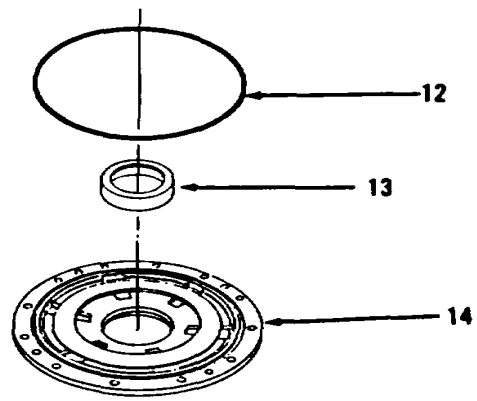
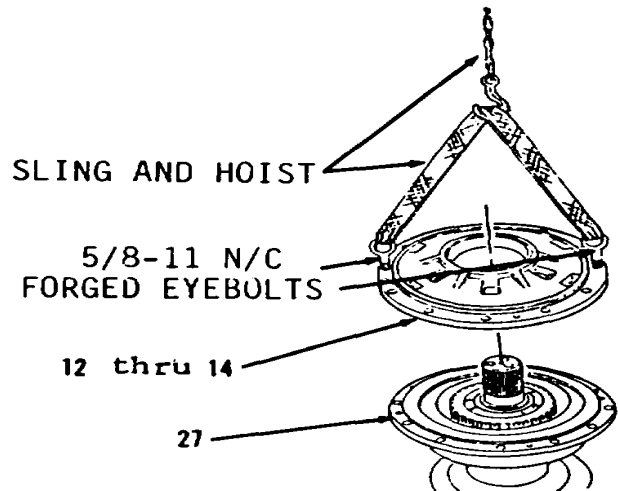

Figure 14-151.
Figure 14-150.
23. Install new seal (12) in cover (14, Figure 14-151).
24. Coat seal (12) with grease.
25. Using dry ice, lower temperature of cup (13).
26. Install cup (13) in cover (14).
27. Install two 5/8-IINC forged eyebolts in items 14 thru 12 as an assembly (Figure 14-150).
29. Install items 14 thru 12 as an assembly in housing (27).